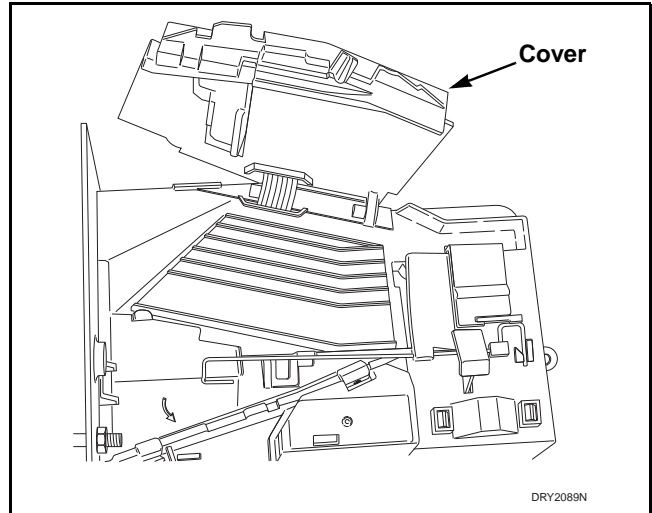

Figure 63
- Open cover for coin drop. Refer to *Figure 63*.